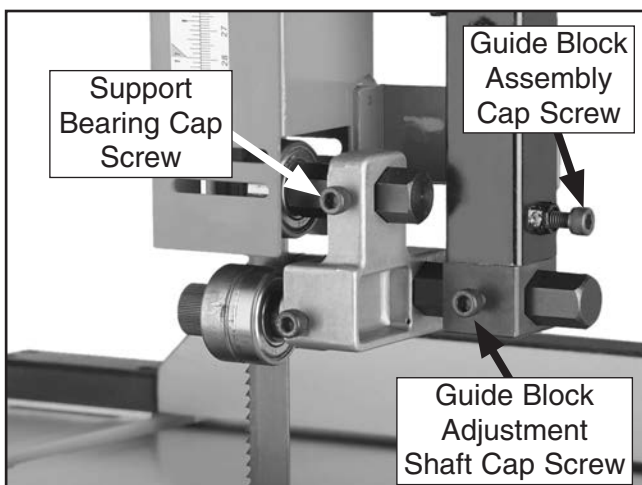

Figure 23. Upper support bearing controls.
3. Familiarize yourself with the upper support bearing controls shown in **Figure 23**.